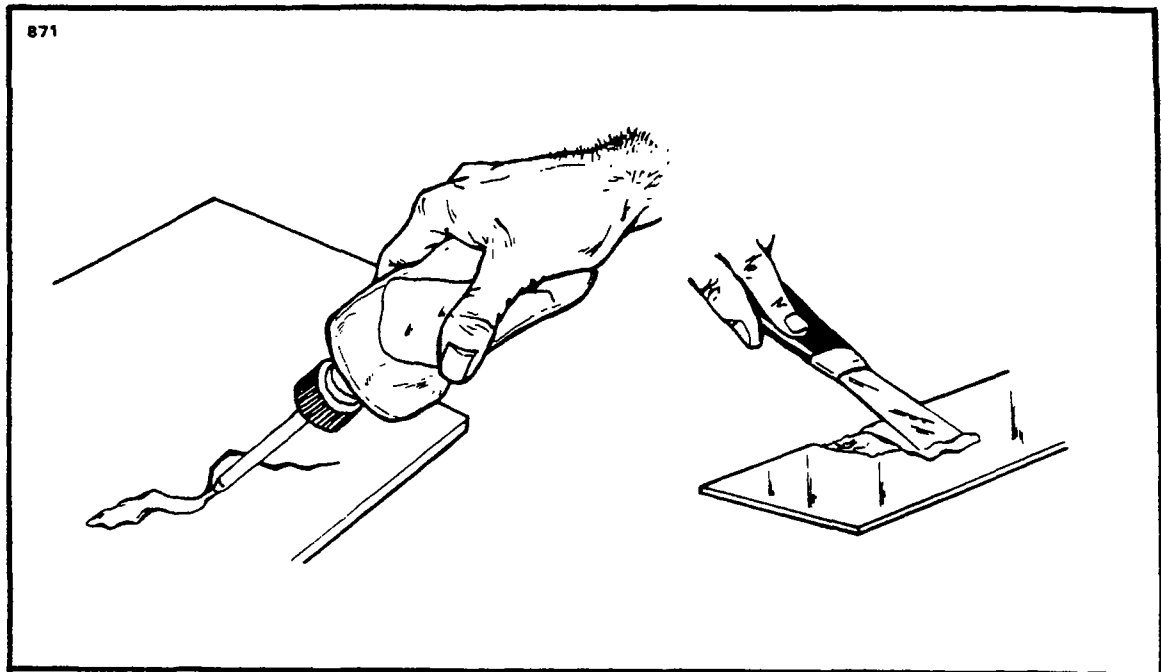

Figure 4-12. Deep Scratches, Shallow Nicks and Small Holes
- c. Deep Scratches, Shallow Nicks and Small Holes: (Less than 1 inch in diameter.) (Refer to Figure 4-12.)